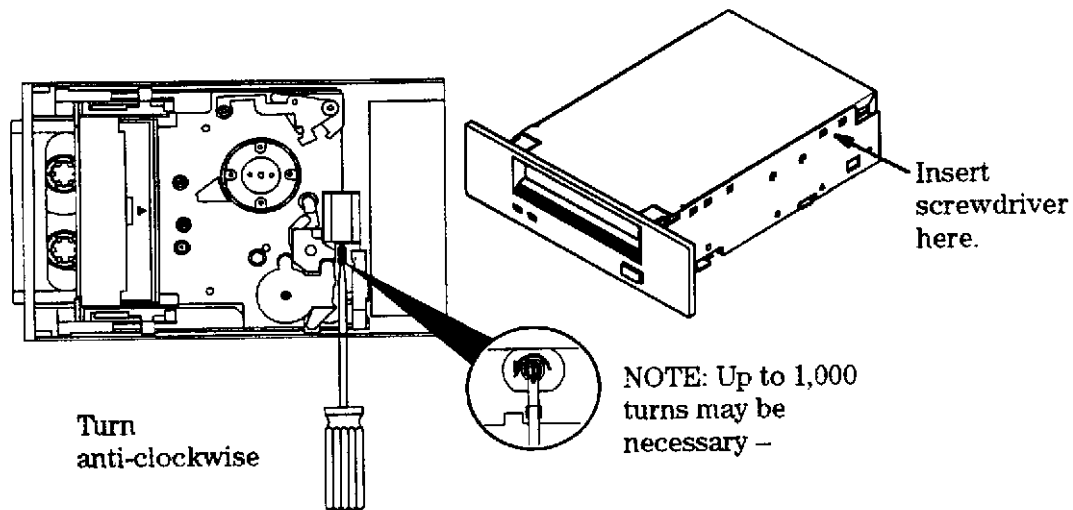

Figure 8-53. Manual Cartridge Removal
4. See Figure 8-53. Insert a size 00 cross head screwdriver through the emergency eject access hole. (Some early revisions of the mechanism have single slots in the end of the worm gear, use a flat blade screwdriver in this case.)